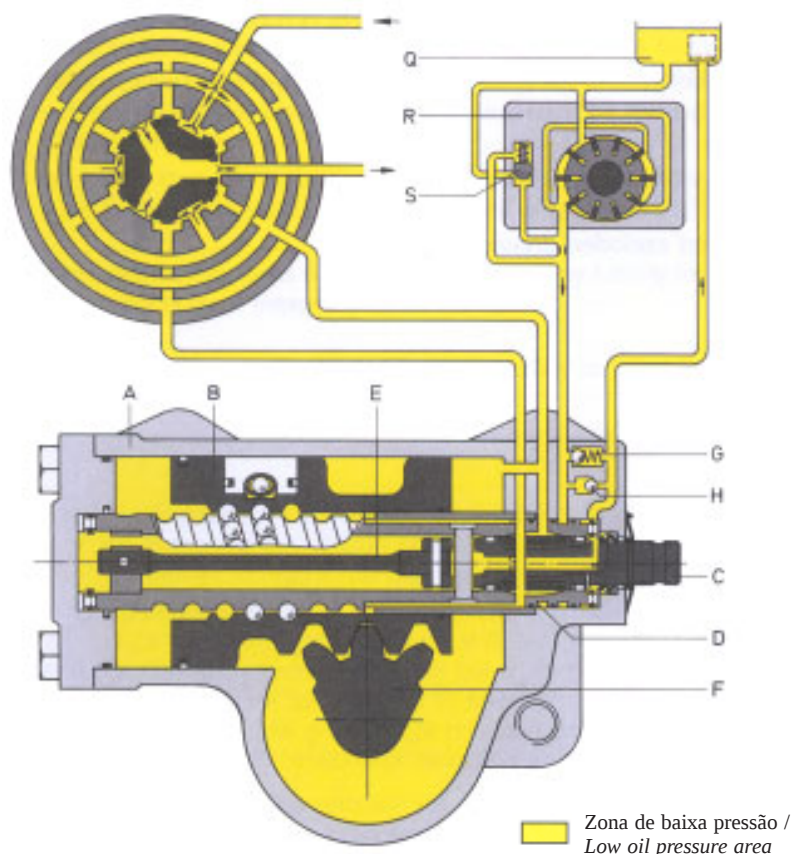

Fig. 1 - Válvula rotativa em posição neutra / Rotary valve in neutral position
A carcaça da direção (A) - vide fig. 1, tem configuração cilíndrica para alojar o pistão (B), que tem a tarefa de converter a rotação da haste da direção (C) em um movimento axial e transferi-lo ao eixo setor (F). O denteamento do eixo setor e do pistão são retos tendo superfície com alto acabamento, de forma que apenas é necessário fazer um único ajuste sem folga, na posição central através de dois excêntricos das tampas laterais (rolamentos).
The steering gear housing (A) - see Fig. 1, is designed as the cylinder for piston (B) which converts the rotation of the steering spindle (C) into an axial movement and transmits it to the rocker shaft (F). The straight teeth of the rocker shaft and piston are finished to a high surface quality, so that it is only necessary to perform a one-time adjustment, free from backlash, by means of the two eccentric housing covers (bearings).
The valve and oil flow are shown in simplified form in figures 1 and 2 to make the drawings easier to understand. The drawings also show a cross sectional view of the valve to enable the connection from the control valve to the cylinder spaces and the function of the valve to be depicted schematically.